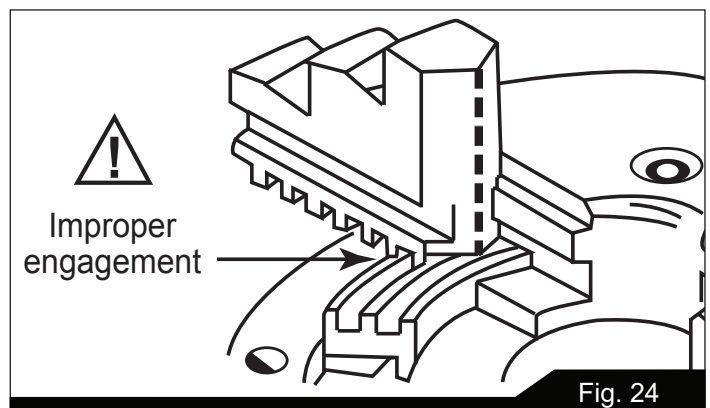

Fig. 24
- Jaw teeth and scroll must be fully engaged, to prevent the jaws from breaking and being thrown from chuck (see Figure 24).